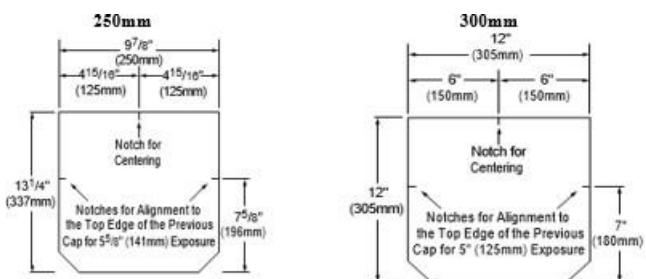

Figure 11-: Each Shadow Ridge® shingle has a centering notch and two side-alignment notches to help ensure proper placement
**NOTE:** Each cap has a laying/alignment notch at the top edge to centre the piece on the ridge line, and two notches on each side to indicate the correct exposure and shadow-line placement (Figure 11). The side notches of the cap being applied should be aligned with the top edge of the previously applied cap.